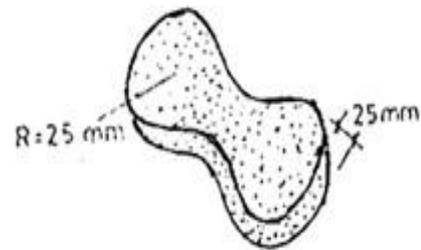

Fig. 3 - Standard Tensile Test Specimen
- 3) Dimensions of standard tensile specimen (fig.3)